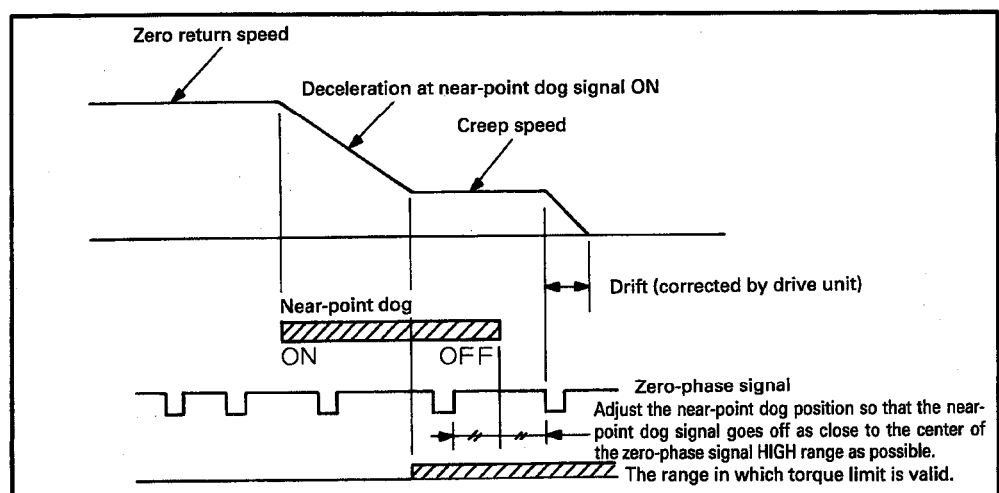

Fig. 3.14 Zero Return Speed and Creep Speed
(3) Zero return address
(4) Zero return speed
- Sets the zero return speed. (Refer to Fig. 3.14)
(5) Creep speed
- The axis travel speed decelerated from the zero return speed at turning on of the near-point dog signal during zero return operation is called creep speed (See Fig. 3.14.).